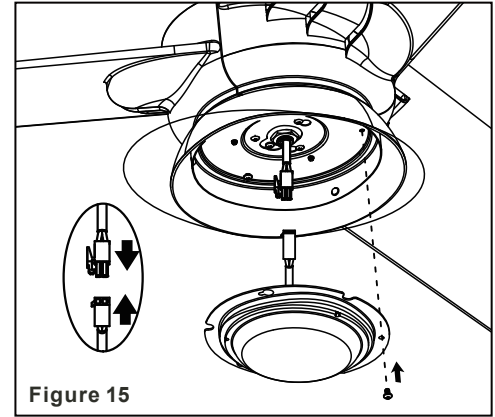

Figure 15
**Step 1.** Hold the light kit close to the switch housing and securely attach the 2-pin connectors. **Step 2.** Tuck the connections neatly into the light kit. Align three round holes on the light kit and switch housing. Securely tighten with 3 screws (Fig.15)